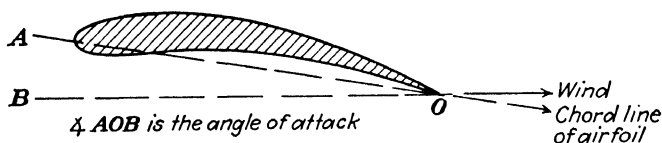

Fig. 111.
A. Angle of Attack. The angle of attack is the angle between the wind stream and the chord line of the airfoil. In Fig. 111, $\angle AOB$ is the angle of attack.